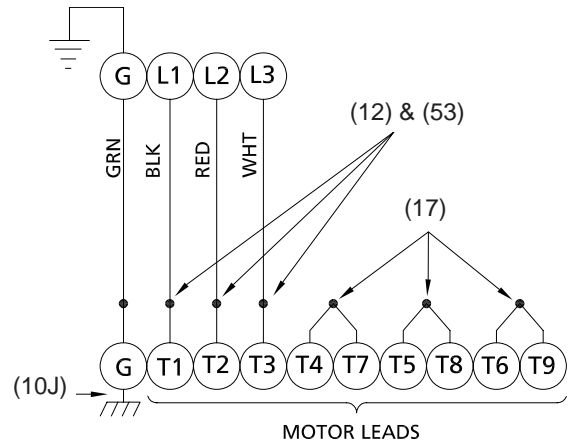

**FIGURE 9**
Refill with cooling oil as outlined in paragraph F-1.3. Position conduit box (10) and square ring (11) over opening, apply thread locking compound to cap screws (6) threads and torque to 16 ft. lb. Remove gland nuts (10B) and (10F), friction rings (10C) and (10G), and grommets (10D) and (10H) from conduit box (10) inspect and replace if required. (See Figure 9). Insert one friction ring (10C), grommet (10D), one friction ring (10C) and gland nut (10B) into conduit box for power cable (10A). For control cable (10E) (if used), insert grommet (10H), friction ring (10G) and gland nut (10F). Torque gland nuts (10B) and (10F) to 15 ft. lb. to prevent water leakage.